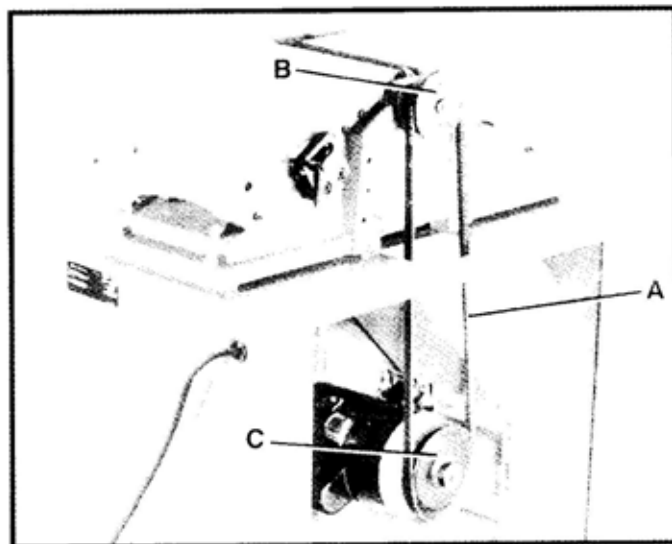

Fig. 11
1. Place belt (A) Fig. 11, inside the grooves of cutter – head pulley (B) and motor pulley (C).